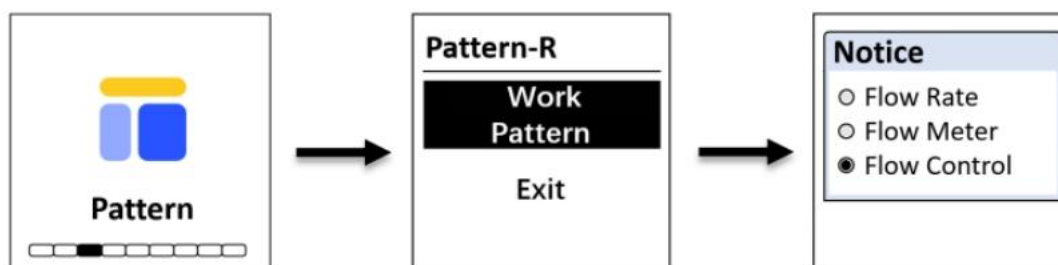

Figure 11 - Operating Mode
When Flow Control Mode (C) is selected, a user defined flow rate setpoint must be entered (see Figure 11 and Figure 12).